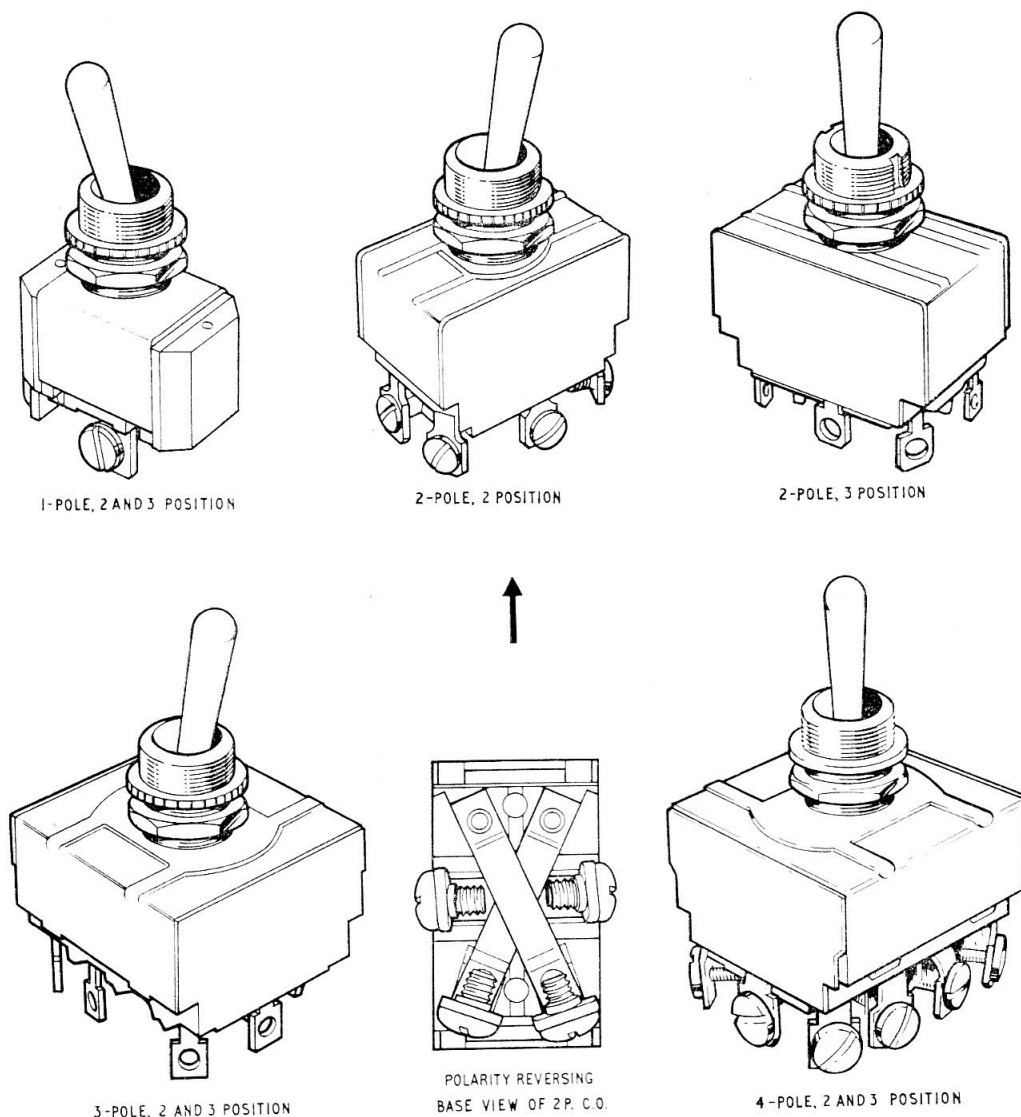

Fig. 1. Typical Arrow type 93A switches
2. These switches, of which specimen types are illustrated in fig. 1, may be either of the following:—
Attention is drawn to the two pole, change over types for polarity reversing as shown in fig. 1; details of which are in Appendix 2.
3. The body of these switches is of bakelite material, the switch mechanism being fully enclosed, while the exposed parts, which are visible when the switch is installed in its panel mounting, are the central bush, operating lever and terminal connections, see fig. 1.